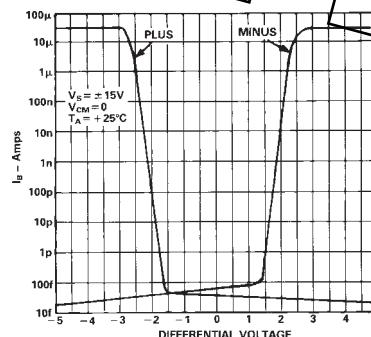

Figure 10. Input Bias Current vs. Differential Input Voltage
- Figure 10 shows the AD515A's input current versus differential input voltage. Input current at either terminal stays below a few hundred fA until one input terminal is forced higher than 1 V to 1.5 V above the other terminal. Input current limits at 30 μA under these conditions.